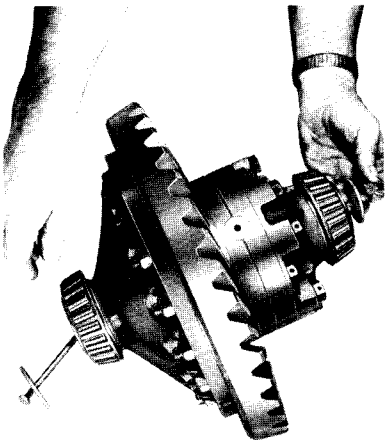

Fig. 3
2. Insert the NoSPIN differential retaining bolt and washer assembly. Thread the nut fingertight against the washer. (Fig. 3) If a retaining bolt and washer assembly are not available, **hold the differential case firmly as the last bolts are being removed from the case halves to absorb spring pressure and prevent possible injury.**